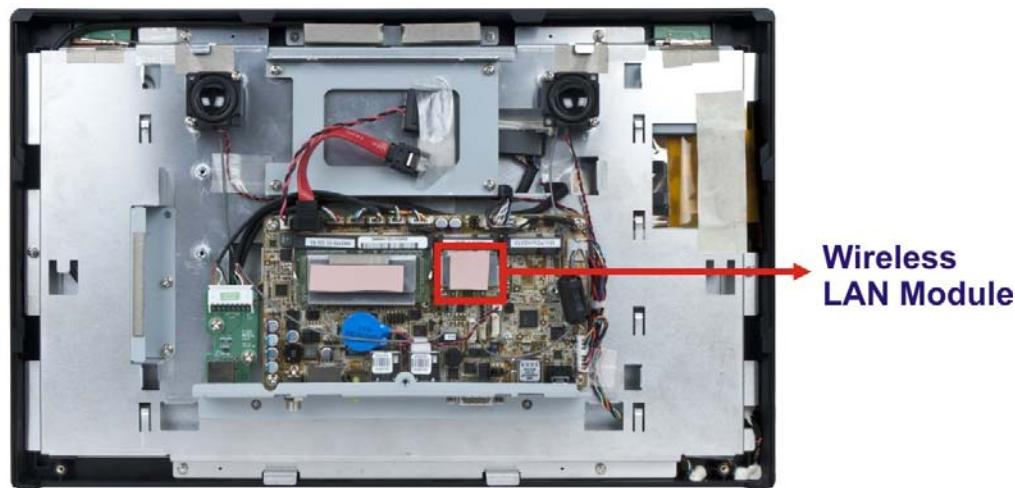

Figure 5-1: WLAN Card Location
Step 4: Locate the WLAN card (**Figure 5-1**).